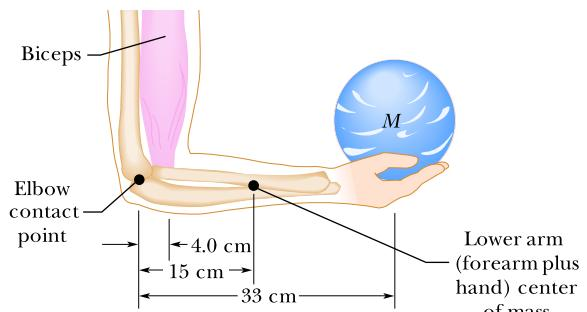

Figure 12.23 Problem 20.
**20 E BIO** A bowler holds a bowling ball ( $M = 7.2 \text{ kg}$ ) in the palm of his hand (Fig. 12.23). His upper arm is vertical; his lower arm (1.8 kg) is horizontal. What is the magnitude of (a) the force of the biceps muscle on the lower arm and (b) the force between the bony structures at the elbow contact point?